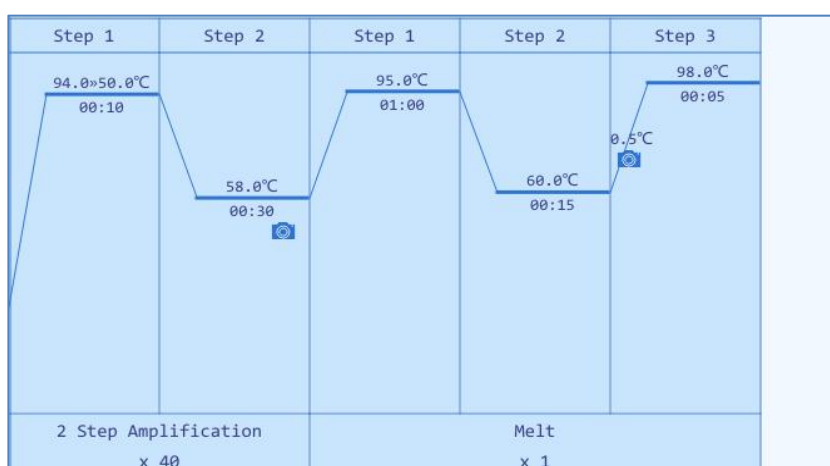

Figure E-5.4. Run Monitoring Diagram - Temperature Program
- If user select the **Temperature** option in the run monitoring option bar, run monitoring diagram will display the temperature program of the current experiment, as shown in figure E-5.4.